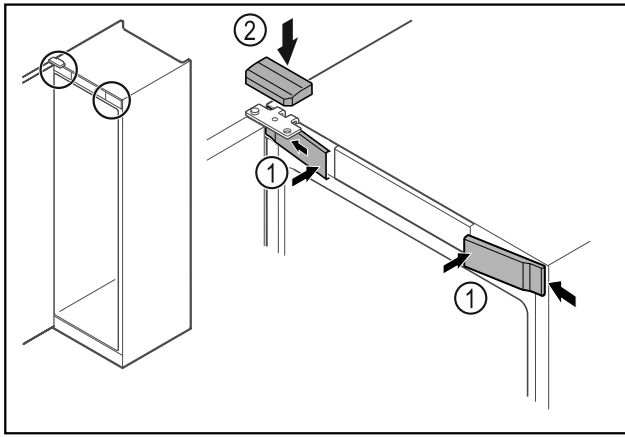

Fig. 27
- ▶ Hook in the front covers Fig. 27 (1) on the side and snap them into place.
- ▶ Snap on the top cover Fig. 27 (2) from above.